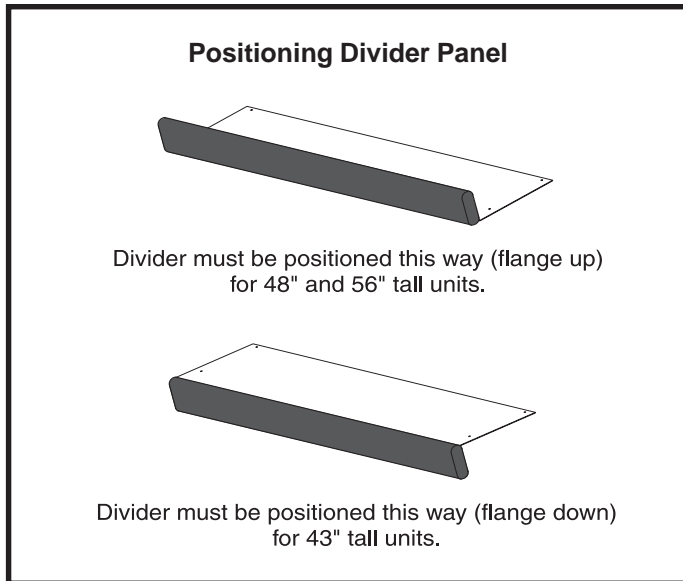

Figure 3
2. Verify divider panel is positioned properly. Figure 3 shows the correct position for 48" and 56" tall units (flange